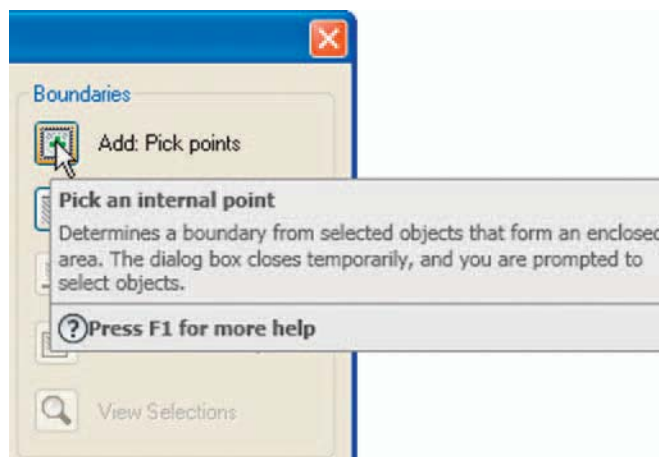

Fig. 7.13 The **Pick an internal point** button of the **Boundary Hatch and Fill** dialog
3. In the dialog *left-click* the **Pick an internal point** button (Fig. 7.13). The dialog disappears.